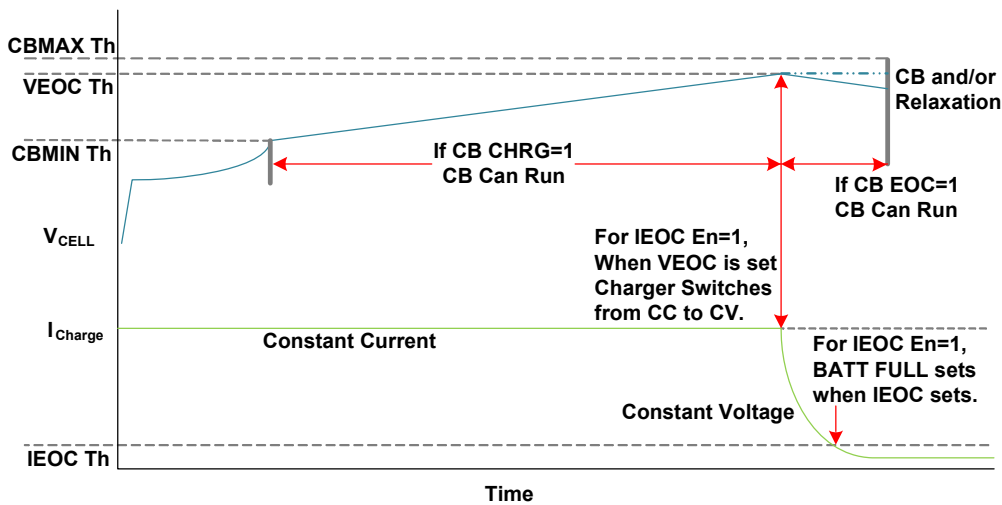

Figure 106. A Typical Charge Characteristic Curve
The RAA489206 has features that support both Constant Current (CC) and Constant Voltage (CV) charging. A typical charging profile for a battery cell is depicted in Figure 106. Cell balancing can occur only when the cell voltage is between the CBMIN and CBMAX limits, which are independent of CB EOC and CB CHRГ bit settings.